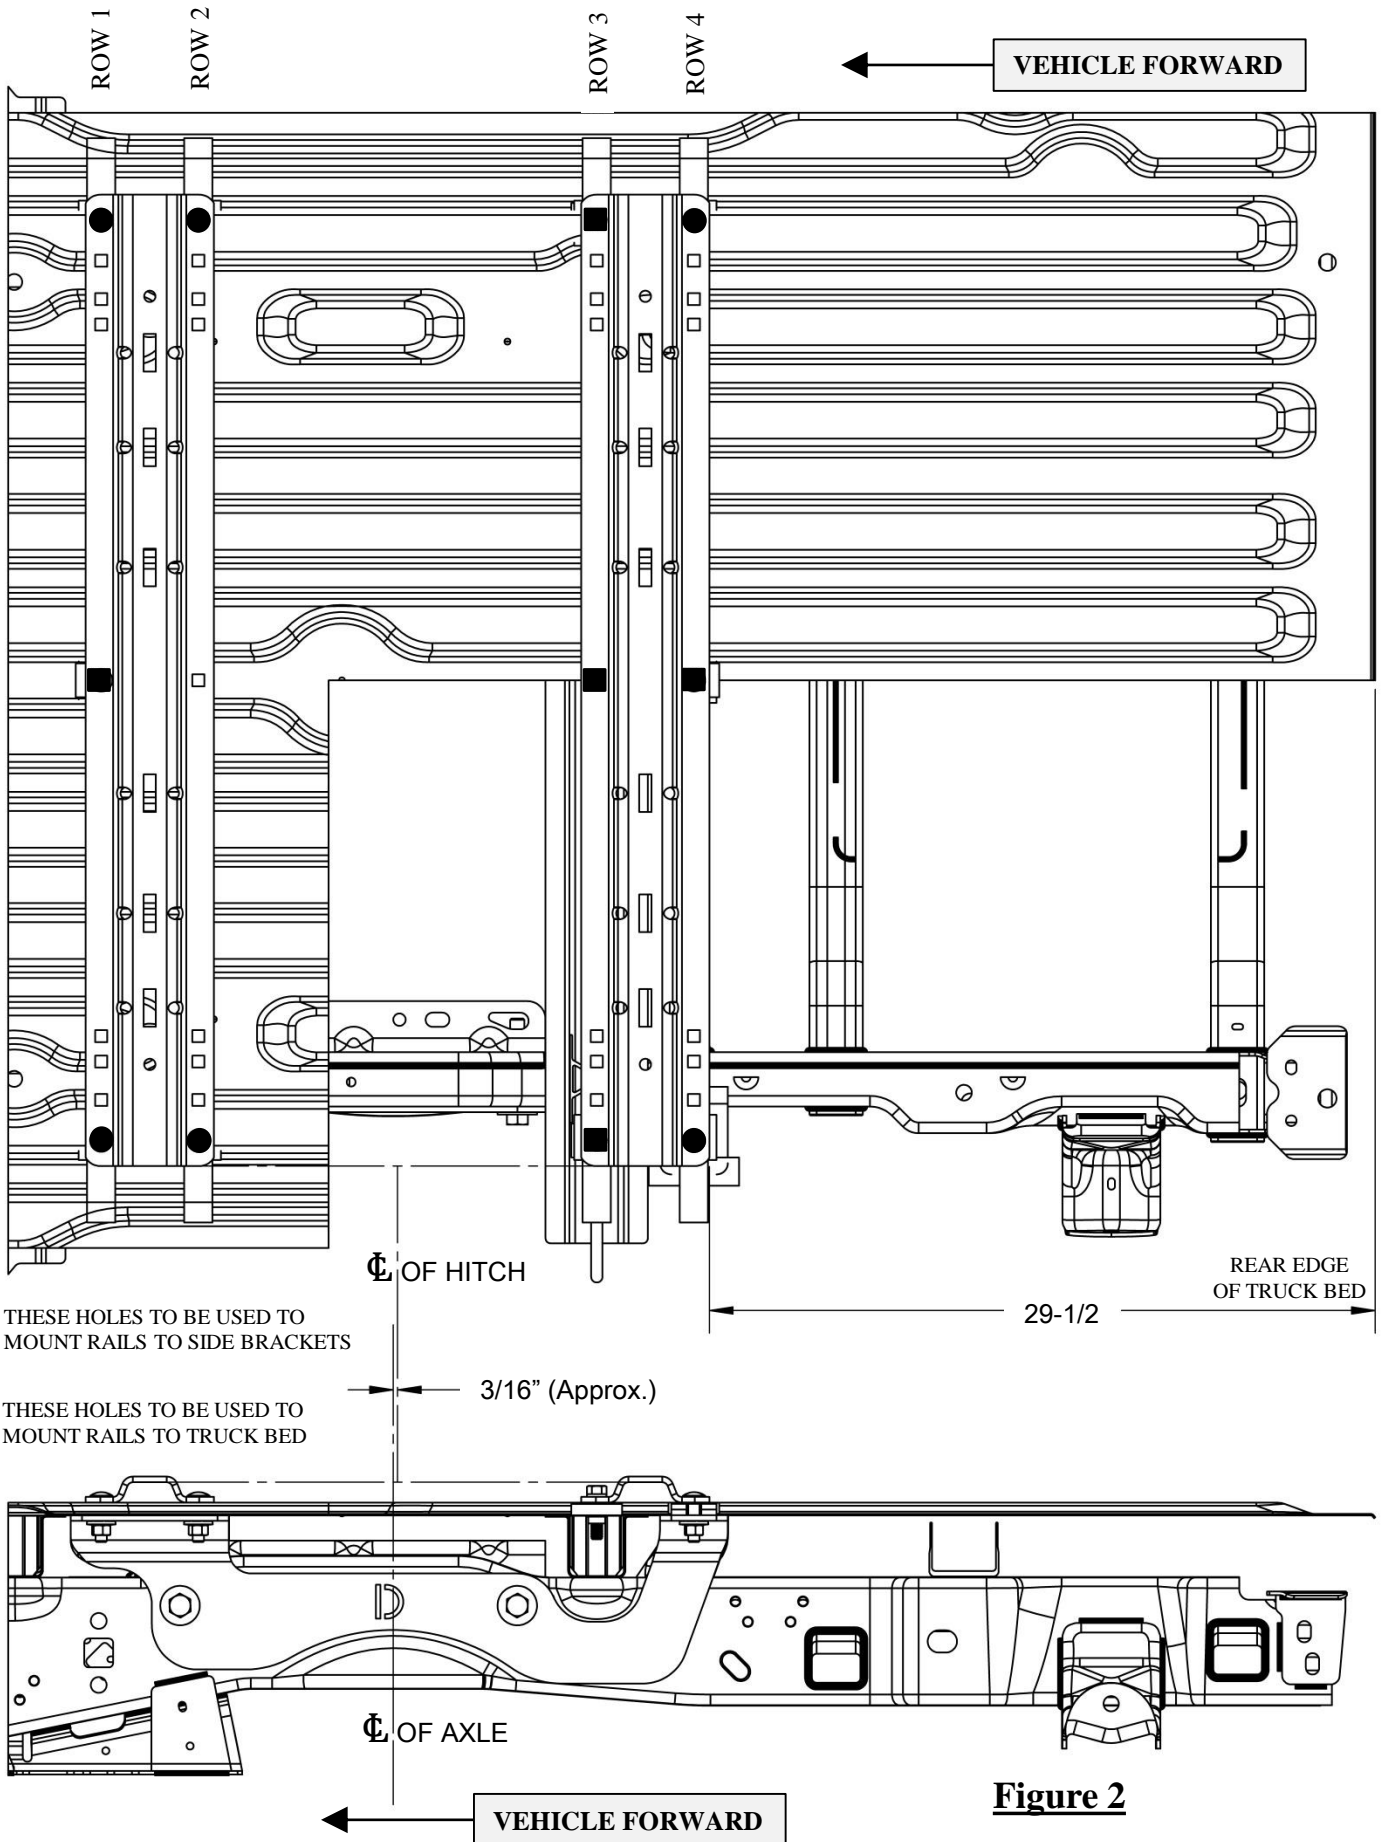

Figure 2
3. Place the rear mounting rail in the box of the truck, using your tape measure, center the rail between the weld seams on the length of the truck box floor or the wheel well and the proper distance from the rear edge of the truck. (See Figure 2)
4. Mark and center-punch the holes, as per the illustrations. Move the rail out of the way and drill each position with a 1/8" drill bit. (See Figure 2)
12. Install the rear rail attachment bolts as shown in figure (3). Ensure that the galvanic isolator patches (13) are installed on the U-shaped spacers and spacer blocks as shown. (See figures 4 & 5) Attach the 1/2" conical washers (16) and hex nuts (15) on the bottom side of the frame bracket (18) & (19) , as per figure 3, and tighten snug to keep the mounting rail from moving. The outer bolts in row 3 of figure 2 will utilize 1/2-13 x 2 hex head bolts (1) on the top of the rail, with a galvanic isolator patch (13), 1/2 x 1-1/2 x 2-1/4 spacer block (3), and a nut handle (2). **For the center bolt in row 3, which goes through the truck bed cross member/sill/hat section, route the 1/2-13 x 4-1/2 Carriage bolt (21) through the rail and tube spacer (20), and secure using the 1/4 x 1-1/2 x 3 spacer (5), 1/2 conical washer (16), and 1/2-13 nut (15). For the center rail bolt in row 4 of rail attachment bolts, route a 1/2-13 x 2 Carriage Bolt (17) though the rail and bed, with a 1/2 x 1-1/2 x 2-1/4 spacer (3) between the rail and bed. Then secure using a 1/4 x 1-1/2 x 3 spacer (5), 1/2" conical washer (16) and 1/2-13 nut (15).**